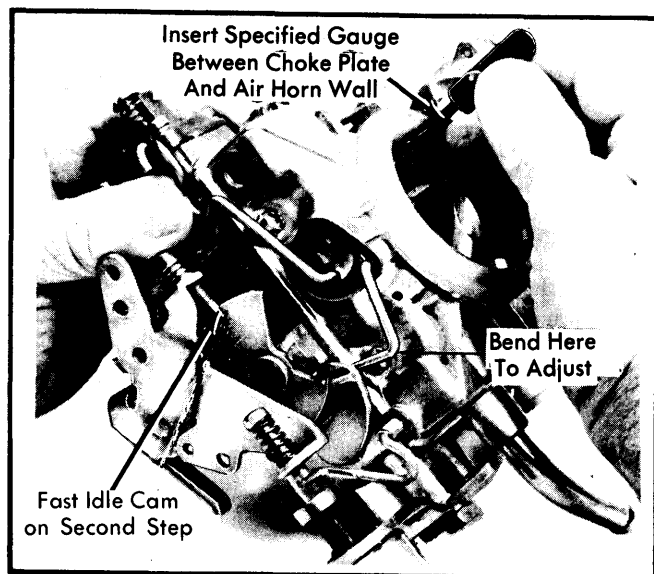

Fig. 3 Fast Idle Cam Position Adjustment
- 1) Place fast idle speed adjusting screw on SECOND highest step of fast idle cam, against shoulder of high step. See Fig. 3